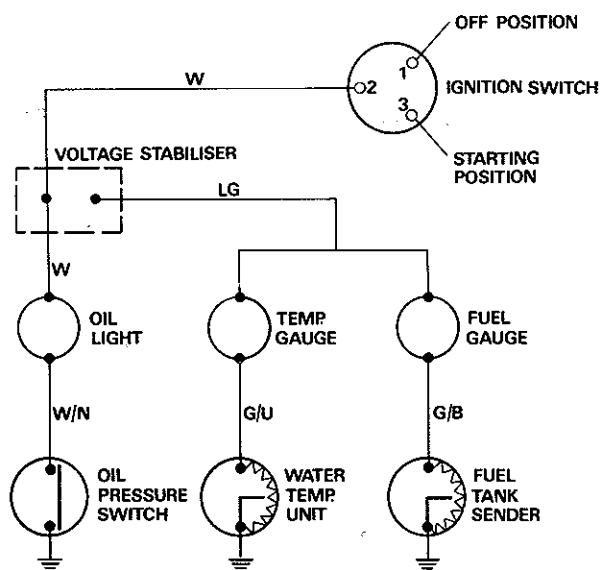

Fig. 1
2. When the ignition switch makes contacts 1 and 2, the charging circuit is completed between the battery and earth (fig. 1). The oil pressure sender and water temperature sender are located on the engine. The fuel level sender is mounted on the fuel tank. The ignition switch and voltage regulator are mounted in the control panel.